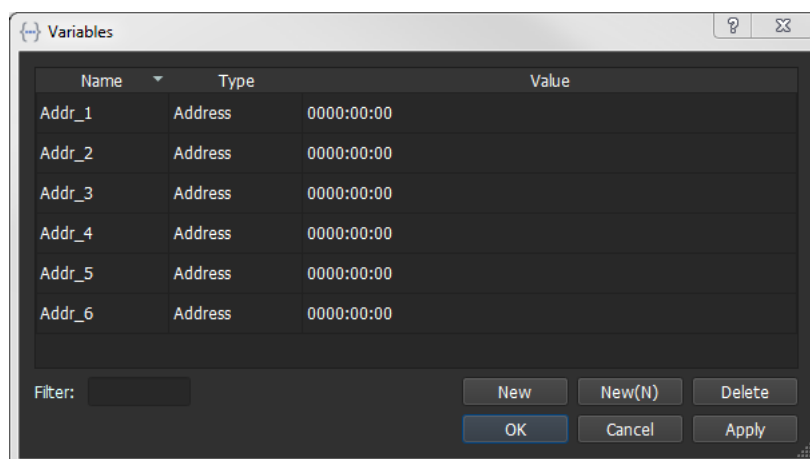

Fig. 9-8: Screen Variables Declared
- 4 Add screen variables Addr_1 to Addr_6, as shown in Figure 9-8. Leave the values set to their default 0000:00:00 values. (The actual values will be specified in a **Monitor by Exception** widget configuration.)